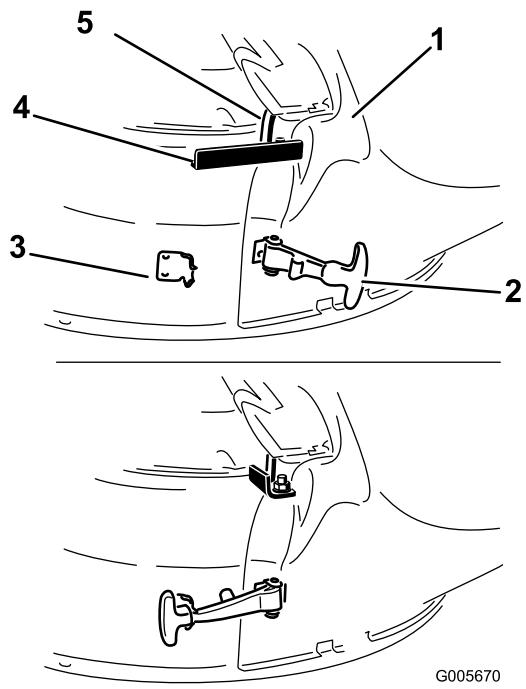

Figure 12
6. Secure the chute to the 42 inch deck. Hook the flexible latch on the chute to the retaining clasp welded on the mower deck to the rear of the opening (Figure 12). Fasten the retaining hook around the pivot rod to secure the chute into position.